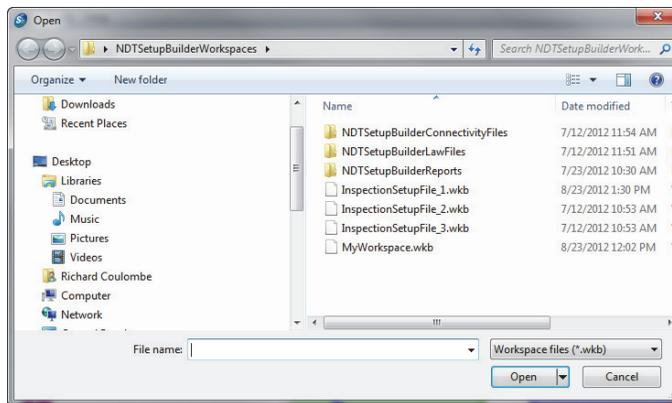

Figure 6-1 The Open dialog box used to open a workspace
2. In the **Open** dialog box, select the desired workspace file (see Figure 6-1 on page 60).